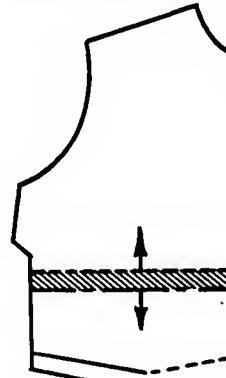

**Fig. 40.** For a wider chest and bust.
C. For a wider chest and bust: Slash the pattern from 1 to 2 in. below the armscye to the point of the bust and up through the shoulder seam as indicated. Spread the pattern the desired amount and relocate the side seam (Fig. 40).